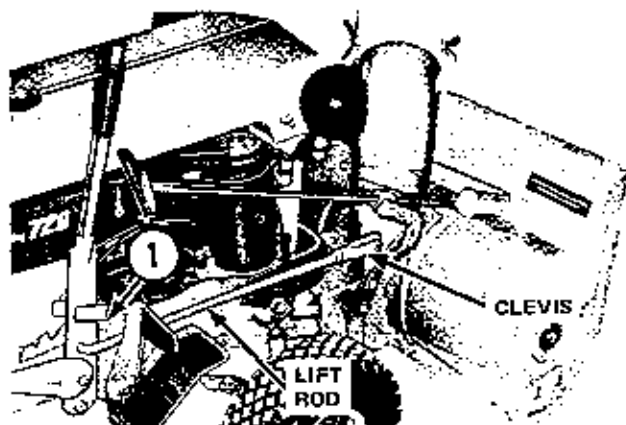

FIGURE 4
4. Connect the lift rod end to the lift lever with a spring clip. Connect the clevis end of the rod to the lift bracket on the hitch with the remaining pin and spring clip. (See Figure 4).
Install pin and spring clip in quadrant to prevent lift lever from locking. (See (1) Figure 4). This applies to all front mounted attachments.